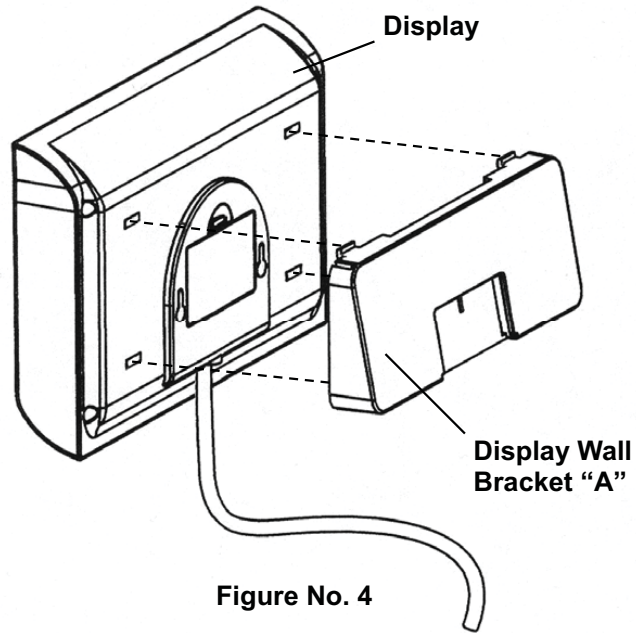

Figure No. 4
8. Next, locate the four (4) slots on the back of the display and align them with the four (4) tabs on the Display Wall Bracket "A". Refer to Figure No. 4.